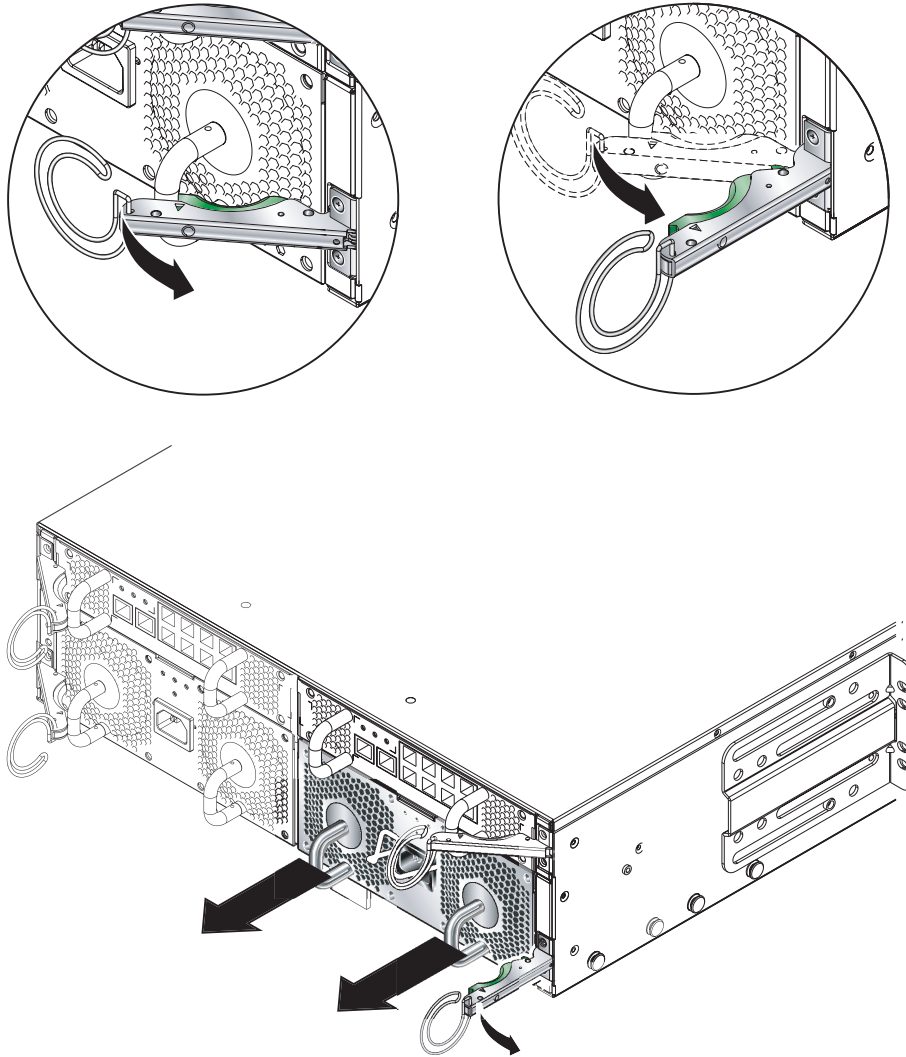

FIGURE 4-8 PSU Ejector Lever
1. Squeeze the green PSU ejector lever to unlatch it and pull the lever towards you to disconnect the PSU from the system chassis (FIGURE 4-8).